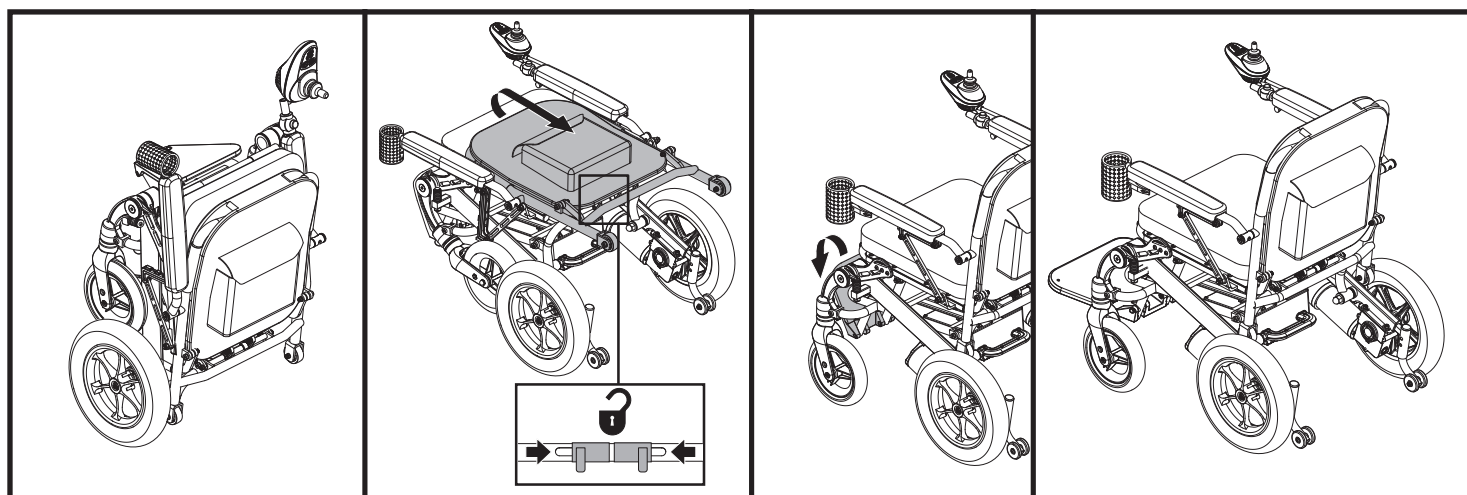

Figure 8. Unfolding the iGo+®
2. Place one hand on top of the seatback and push it downward while squeezing the pins of the locking mechanism together. **See figure 8.**